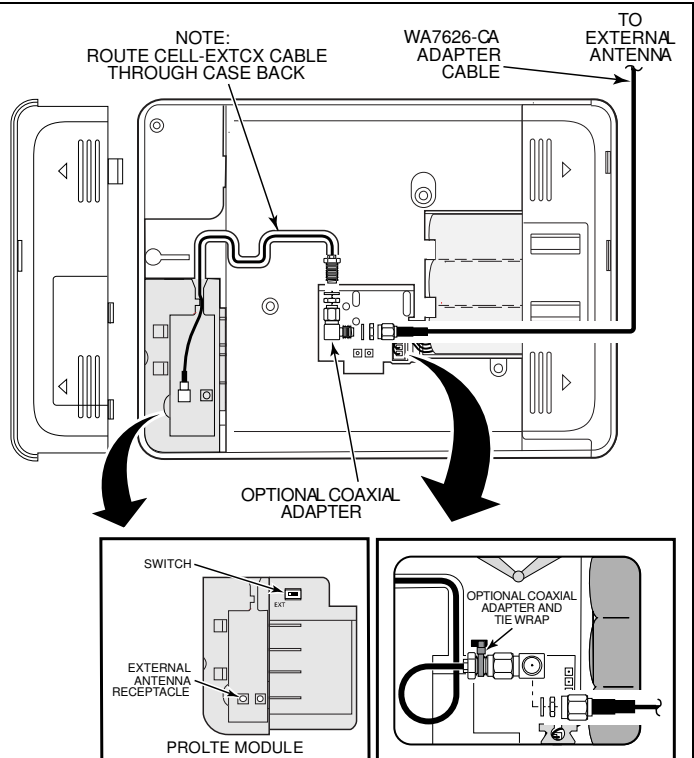

**Figure 1 – CELL-ANT3dB Remote, Weatherproof Antenna**
5. Attach the antenna to the mounting bracket as shown in Figure 1.